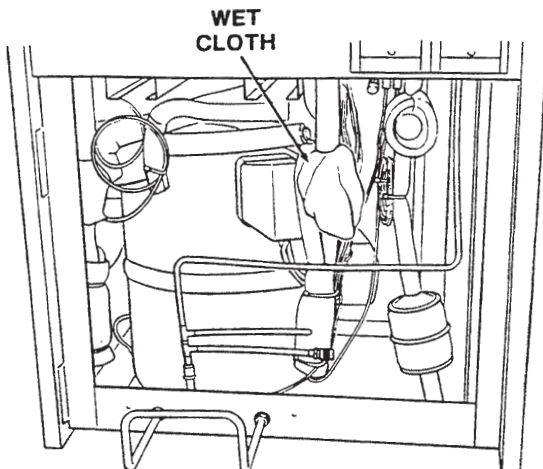

Figure 36. T.X.V. Removal
6. Apply a heatsink (wet cloth) to the valve dome (Figure 36).